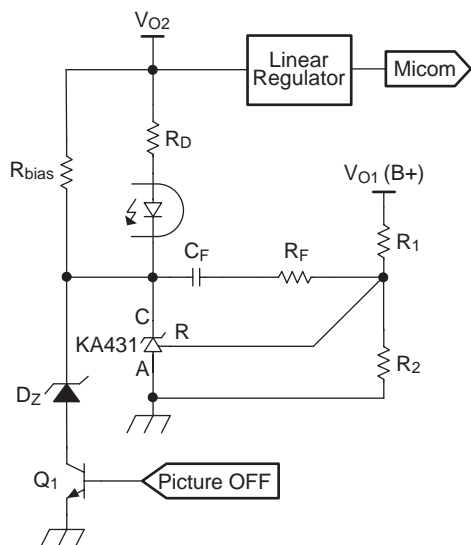

**Figure 15. Typical Feedback Circuit to Drop Output Voltage in Standby Mode**
**6. Burst Operation:** In order to minimize the power consumption in the standby mode, the FSCQ-Series employs burst operation. Once FSCQ-Series enters into the burst mode, FSCQ-Series allows all output voltages and effective switching frequency to be reduced. Figure 15 shows the typical feedback circuit for C-TV applications. In normal operation, the picture on signal is applied and the transistor Q1 is turned on, which decouples R3, Dz and D1 from the feedback network. Therefore, only Vo1 is regulated by the feedback circuit in normal operation and determined by R1 and R2 as: